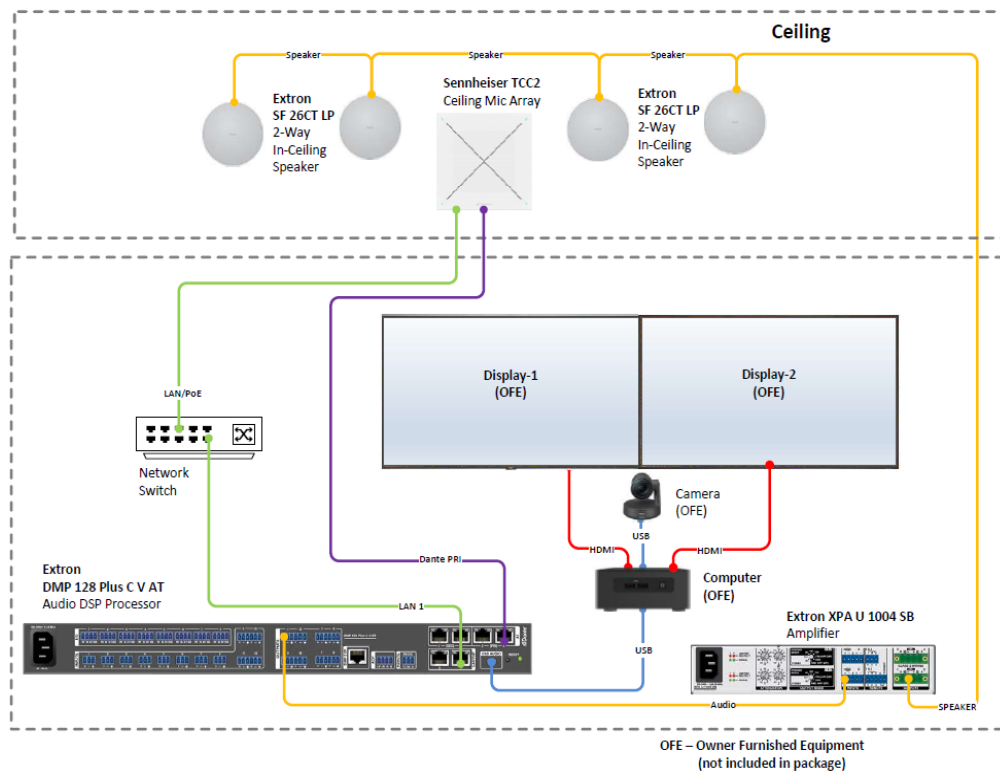

Figure 2. System Diagram Example
1. Unbox and connect the provided hardware using the diagram in figure 2 on page 3.